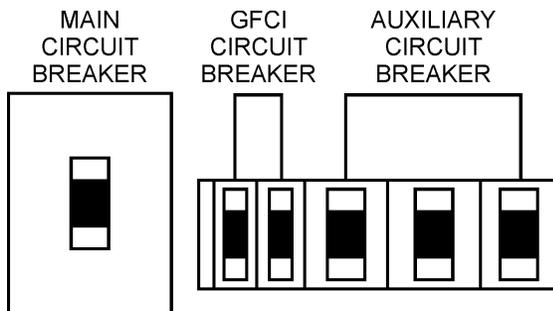

Figure 54. Main, Aux. and GFCI Circuit Breakers (OFF)
1. Place both the **MAIN, GFCI and LOAD** circuit breakers as shown in Figure 54 to the **OFF** position.